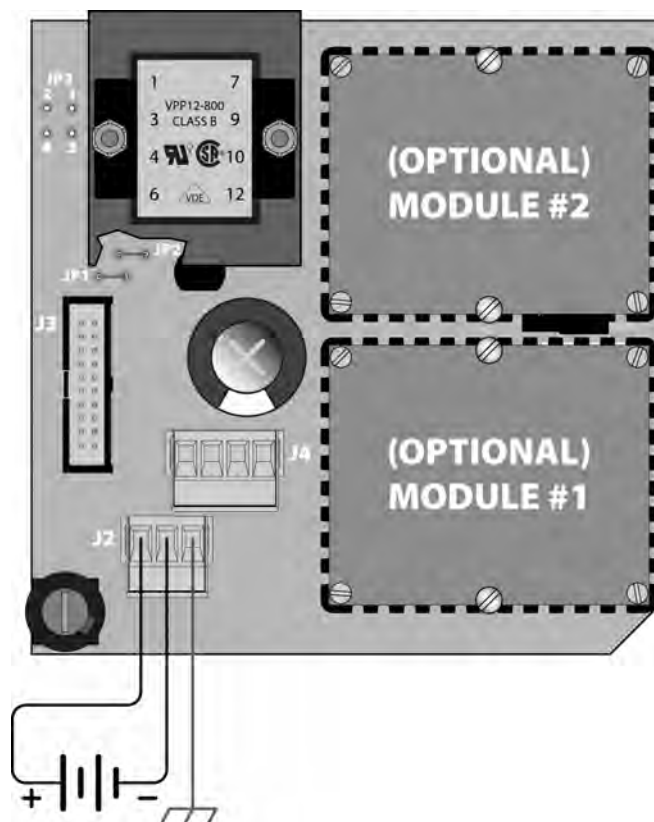

Figure 1.5
2. Connect the DC power source as illustrated in the schematic in **Figure 1.5**. Wire up to 14 AWG can be accommodated in the TFX terminal blocks.